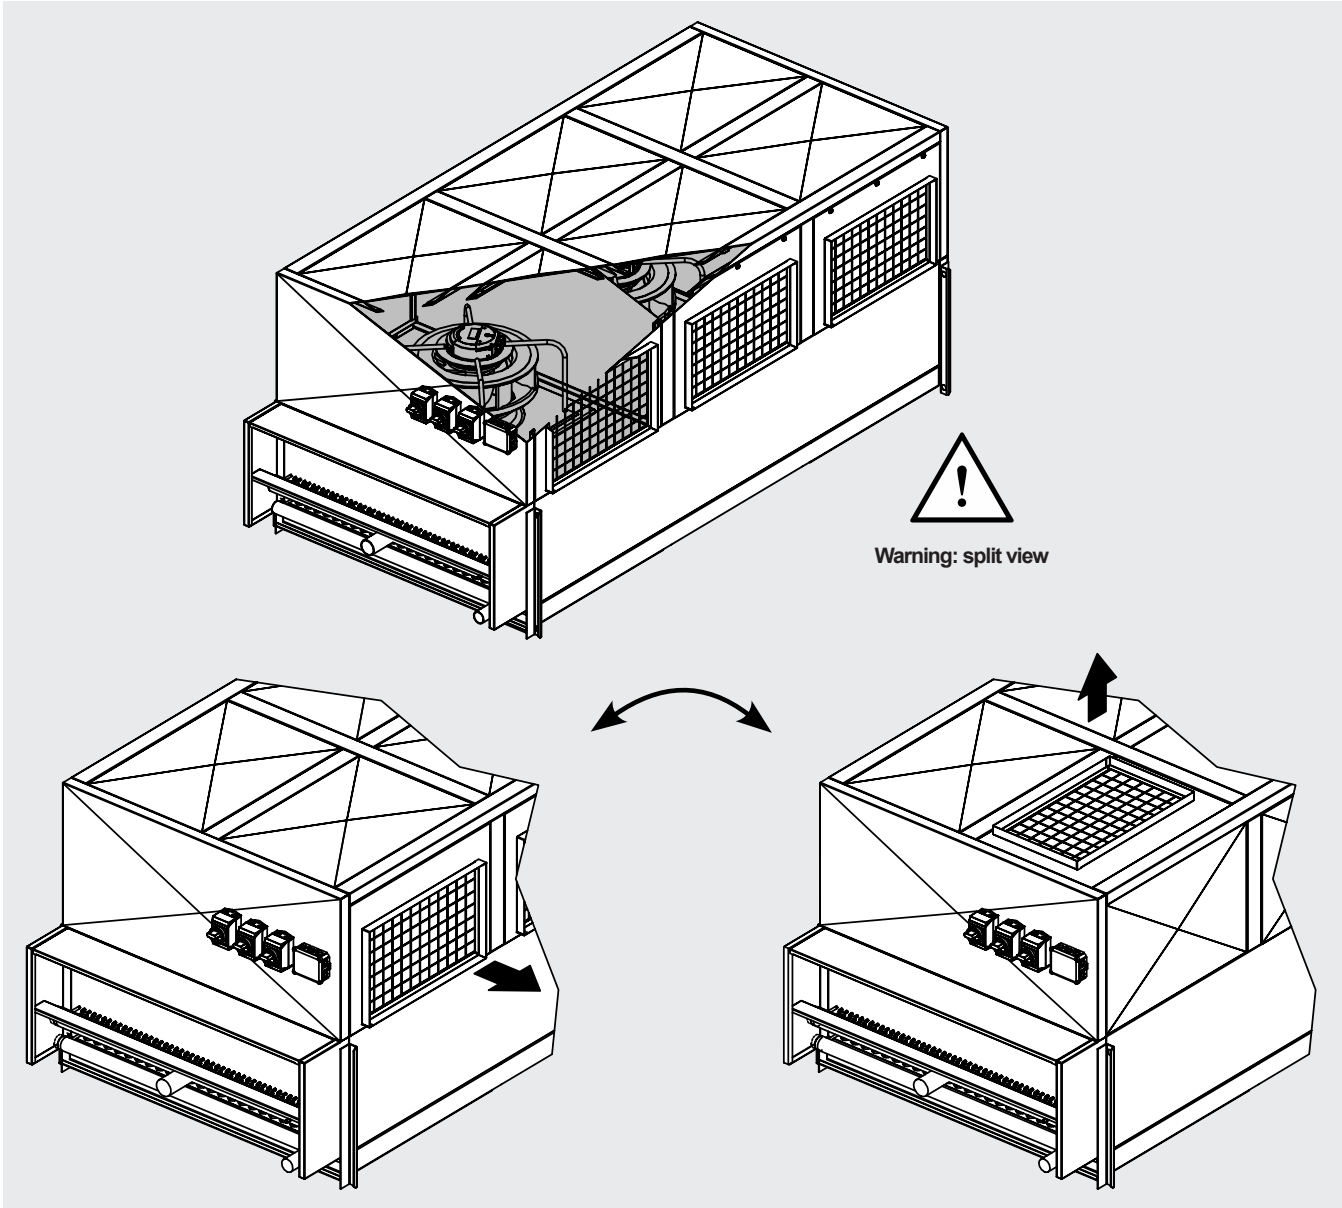

Figure 8
- 8.1 Each motorfan is housed in its respective compartment in the top part of the model, above the heat exchanger. To change the position of the air outlet, simply swap the installation position of the solid panels and grid panels covering the ventilation compartment. The panels are fixed with screws only. See Figure 8.